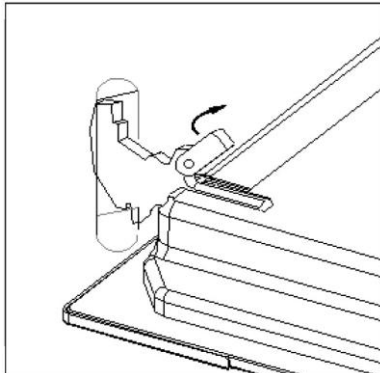

Figure 9
2. Lift up and turn the small levers situated on the two hinges (See Figure 9)